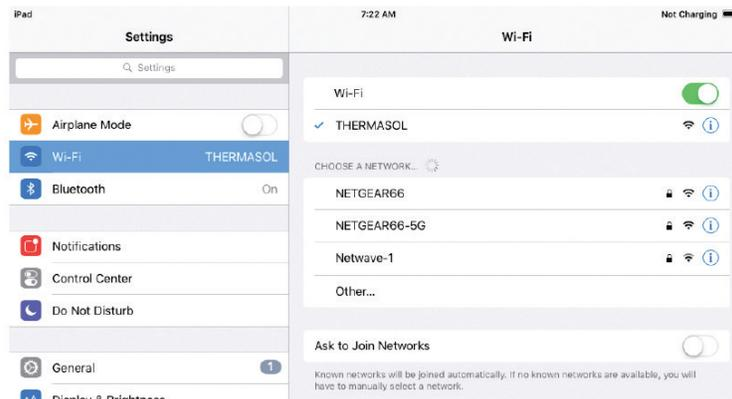

Figure 1: Apple Wi-Fi settings
5. After connecting you will see a check mark next to ThermaSol as shown below in Figure 1